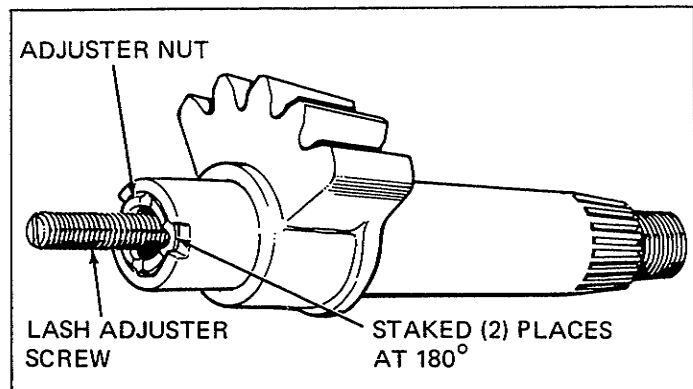

**Figure 52. Removing Lower Bearing Retainer**
8. Use a suitable size screwdriver to pry the lower bearing retainer from the adjuster plug housing and remove the bearing (Figure 52). Remove the locknut from the adjuster plug.